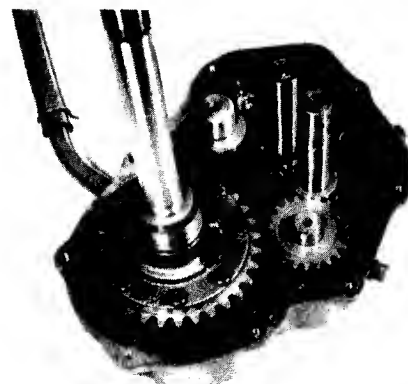

FIG. 4.9-LOW GEAR AND SHAFT
10. Install low gear and shaft. Fig. 4.9.
4. Hold output shaft in place and install snap ring, as shown in Fig. 4.9.